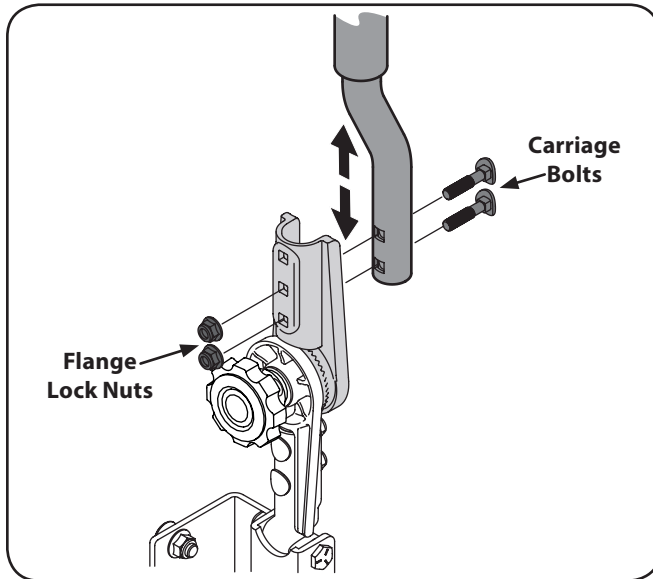

Figure 3-8
1. Remove the flange lock nuts that secure the carriage bolts in the drive control levers. See Figure 3-8.